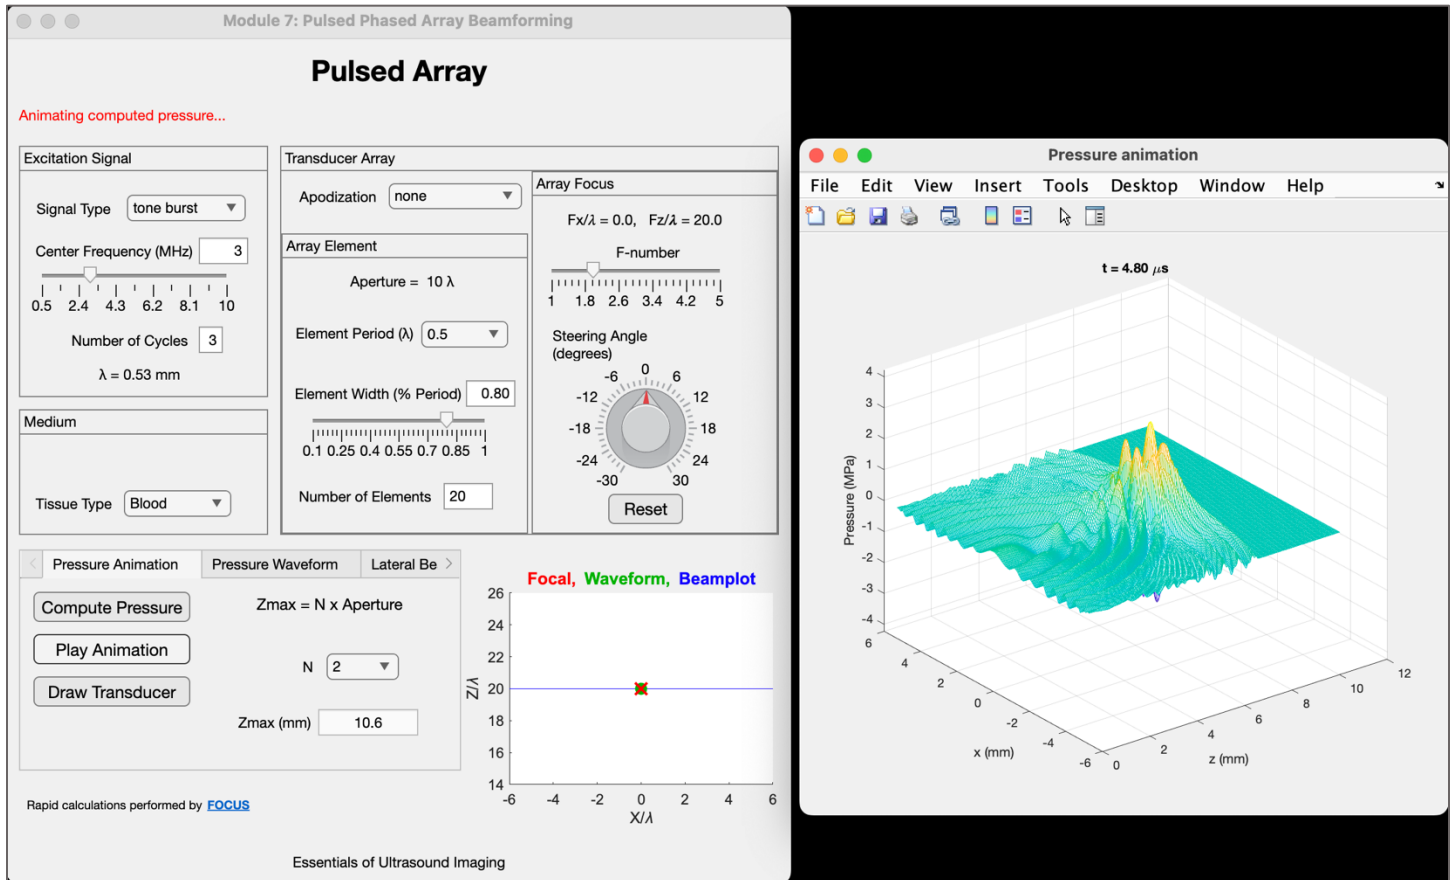

Figure 43: Pulsed Array Simulator GUI: Pressure Animation Example
- Click the Play Animation button to visualize an animation of the selected pressure wavefront. The delay time of the wavefront is shown above the plot during propagation. Refer to Figure 43.